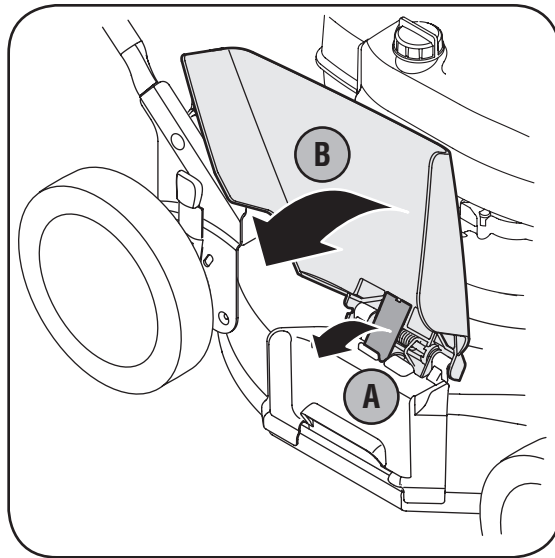

Figure 3-1: Remove retainer from underside of chute.
- a. Pull chute deflector up and back towards engine. Holding deflector in this position, remove the retainer and discard. See Figure 3-1.